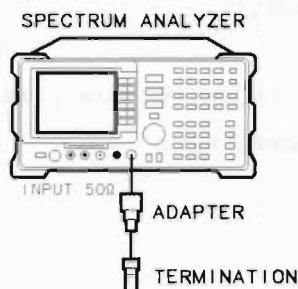

Figure 2-81. Residual Response Test Setup for Option 130
1. Connect the termination to the spectrum analyzer input as shown in Figure 2-81.
4. Connect the 300 MHz CAL OUT to the RF INPUT as shown in Figure 2-81
10. Reconnect the termination to the spectrum analyzer input as shown in Figure 2-81.